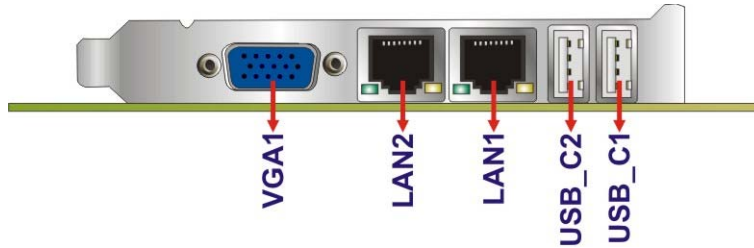

Figure 3-22: External Peripheral Interface Connector
**CN Location:** See Figure 3-22
- CN Location: See Figure 3-22